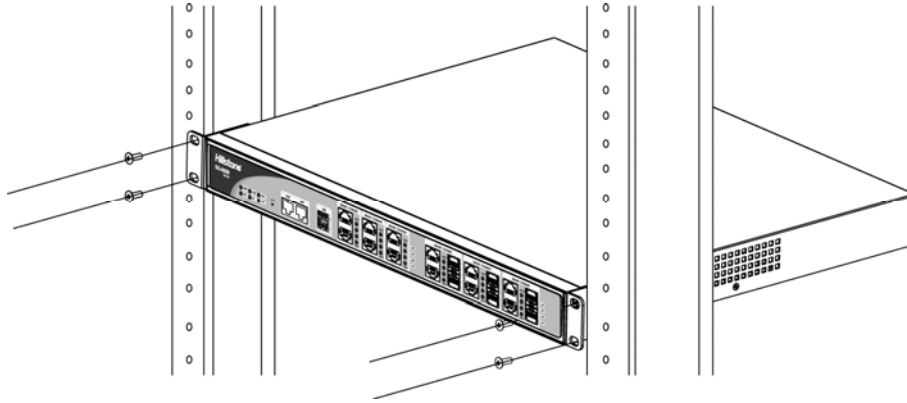

Figure 3-3: Installing the Appliance in a Rack (1U Chassis as example)
Step 2: Take out screws from the accessory box and fasten the rack-mounting ears of the chassis in the rack with the screws. Keep the center of rack-mounting ear and the center of the rack hole horizontally even, as shown in Figure 3-3.